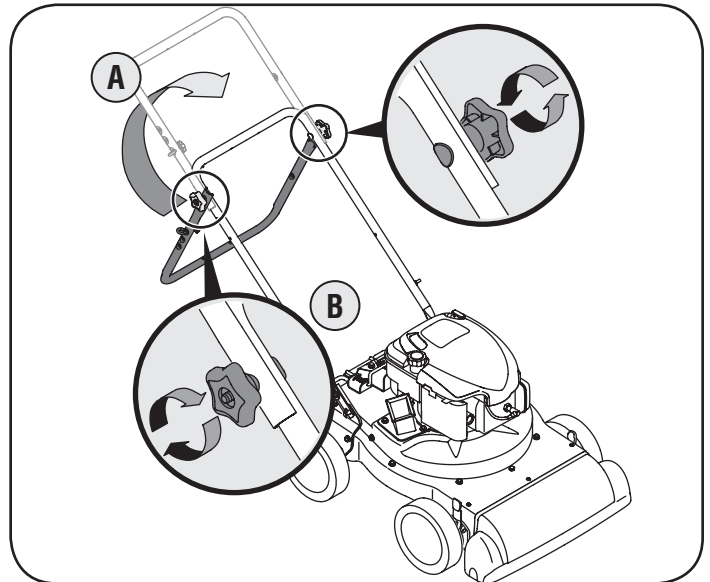

Figure 3
- a. Unfold the upper handle until it aligns with lower handle. Make sure the rope guide is on the right side of upper handle. See Figure 3.
- b. Secure the two handles by tightening the star knobs (carriage bolts must be seated properly into the handle). See Figure 3.